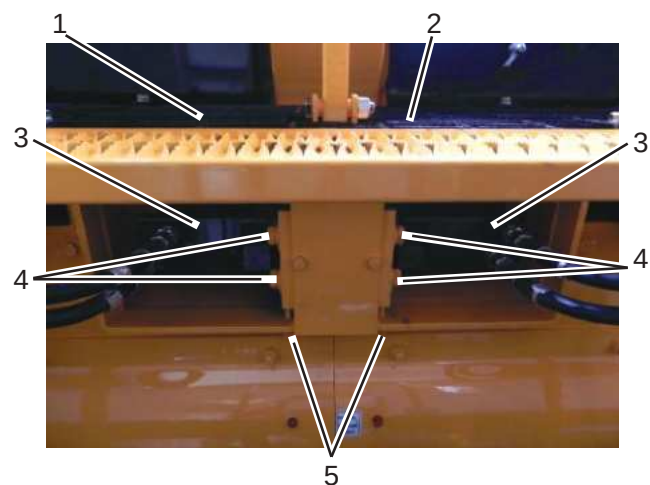

Figure 5-31. Auger Motors
5. Remove the two nuts on the cover and pry the cover apart. **(Figure 5-31)**